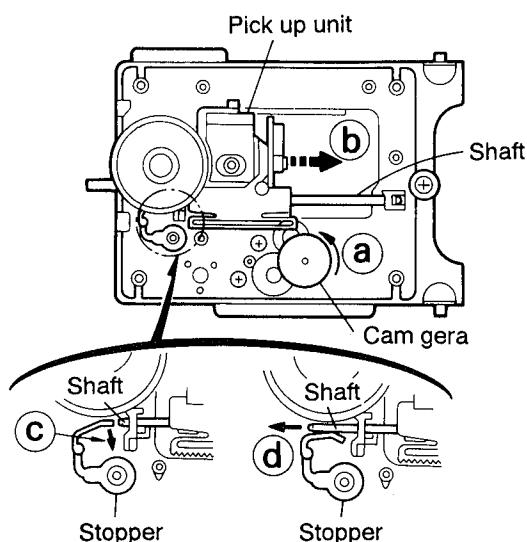

Fig. 2-19
■ Removing the CD pickup unit (See Fig. 2-19)
1. Move the cam gear in the arrow direction ④. Then, the CD pickup unit will be moved in the arrow direction ⑤.
2. According to the above step, shift the CD pickup unit to the center position (Fig. 2-19).
3. While pressing the stopper retaining the shaft in the arrow direction ⑥, pull out the shaft in the arrow direction ⑦ (See Fig. 2-19).